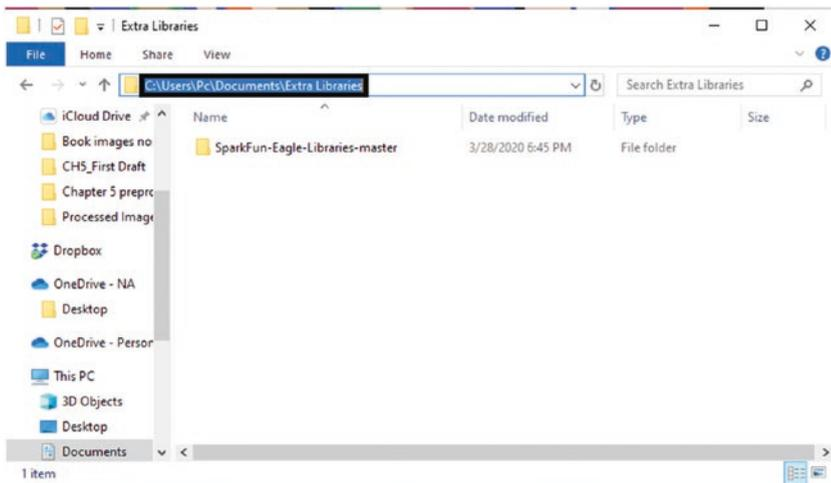

Figure 5-10. Copy Libraries directory
8. Copy the link address from your File Explorer to the Libraries text box in the Directories window. Remember to add the “;” after the “\$HOME\EAGLE\libraries”. See Figure 5-10.